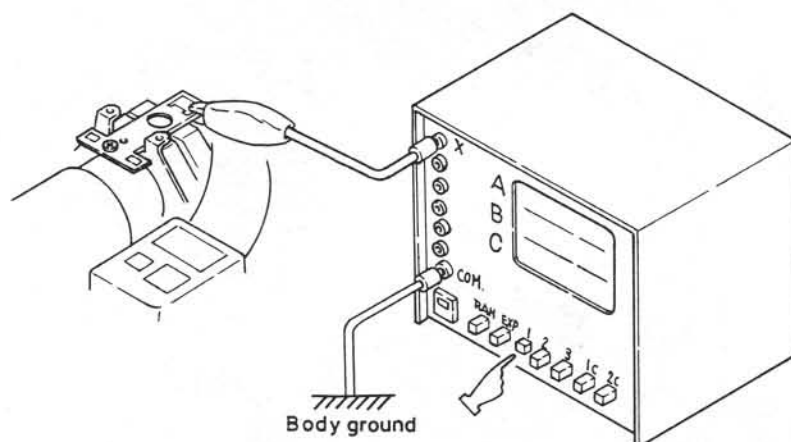

Fig. 53
- 52-2 Depress the function button 1 on the shutter tester and connect the two lead wires as shown in Fig. 53.